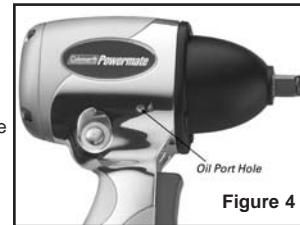

Figure 4
3. Add 1 tablespoon of Coleman Powermate® air tool oil #018-0059SP, or SAE10 nondetergent oil into the oil port hole. Replace the allen socket screw (see Figure 4).